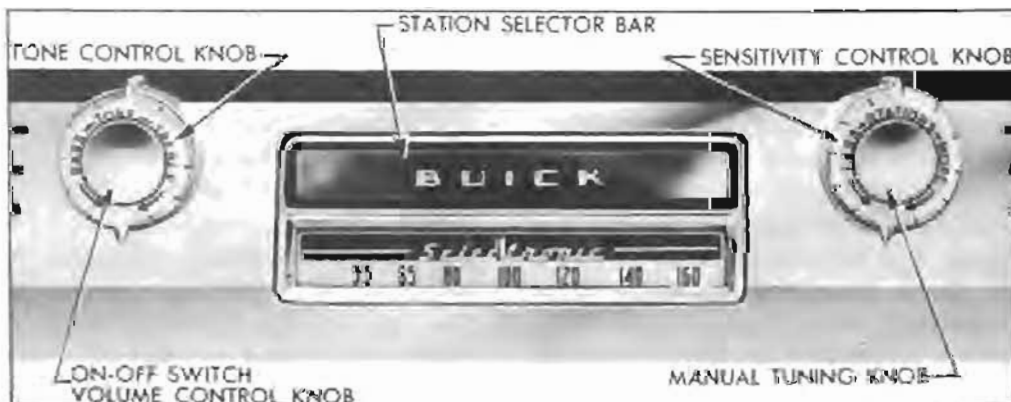

Figure 11-9—Receiver Controls—Selectronic Radio
The switch and volume control knob is to the left of the dial. See figure 11-9. The first portion of rotation clockwise turns on the radio; further rotation clockwise increases the volume.
The tone control knob is located behind the volume control knob. See figure 11-9. Rotation of tone control knob to extreme "treble" position gives brilliant reproduction of the full tone range. This position will reproduce speech very clearly and distinctly. Rotation counterclockwise toward "bass" diminishes brilliance and accentuates low notes.
With the radio turned on, selective tuning of available stations is accomplished by depressing either the selector bar above the dial (fig. 11-9), or the foot control switch on toe panel to left of the brake pedal.
The number of stations on which the tuner will stop in selective tuning can be regulated by manual setting of the sensitivity control knob, which is located behind the manual tuning knob to right of the dial. See figure 11-9. This is a step control having six positions. This control is in the circuit only while the tuner is seeking and does not affect the "on station" sensitivity of the receiver.
6. Install tone control knob, felt washer, and volume control knob on shaft to *left* of the dial. Install dummy knob (Sonomatic) or sensitivity control knob (Selectronic), felt washer, and tuning control knob on shaft to *right* of the dial. See figure 11-9.